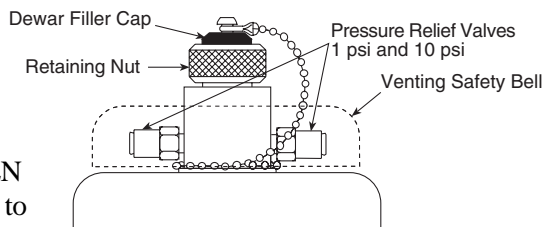

Figure 14. Dewar Ports and Valves
1. Loosen the retaining nut (Figure 14) a few turns, then remove the LN Dewar port cap by pulling it straight out.
The pressure relief valves (Figure 14) underneath the protective covering will occasionally emit a plume of N₂ gas and mist. *Continuous* hissing indicates that the vacuum in the Dewar jacket is probably inadequate. In this case, *first remove all LN from the Dewar* and allow the Dewar to warm up to room temperature. Then contact Princeton Instruments Customer Support for further instructions.